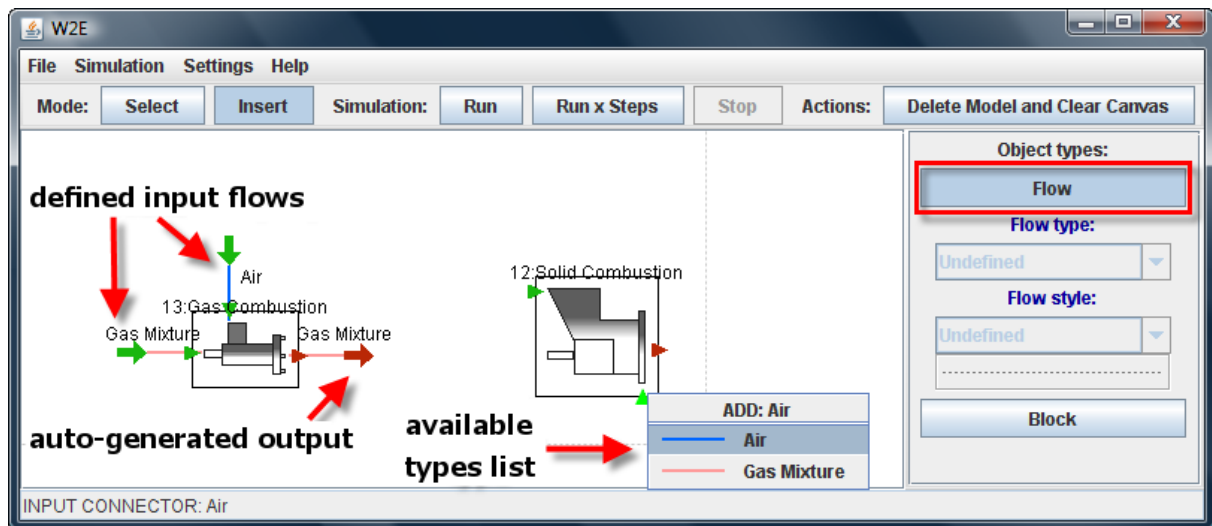

FIG. 5: Definition of input flows
2. Select *Flow* button from the *insertion panel* (see Fig. 5 right) which will result in two actions: two flow properties called *flow type* and *flow style* will appear right under the *flow* button, and secondly, around all blocks inside the canvas appear special green and/or red marks; these marks are called the connectors and they designate the areas for input and/or output flow connection (see Fig. 5).
3. Move the mouse cursor above a connector (the connector highlights). If you left-click the connector, you'll be presented with a popup menu with the list of flow types available for the particular connector. (see the centre of Fig. 5).
4. Upon the correct entry of all input flows for a particular block system automatically generates all output flows (see left of Fig. 5).